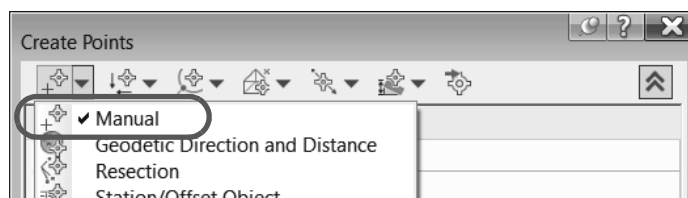

Figure 2–42
4. Select the **Manual** option in the miscellaneous group in the toolbar as shown in Figure 2–42.